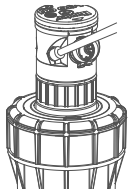

Figure 4
- 3 When facing directly toward the nozzles, short-range nozzles are on the left and mid-range nozzles are on the right. To remove a nozzle, firmly align and press the tool against it while turning counterclockwise (Figure 4).